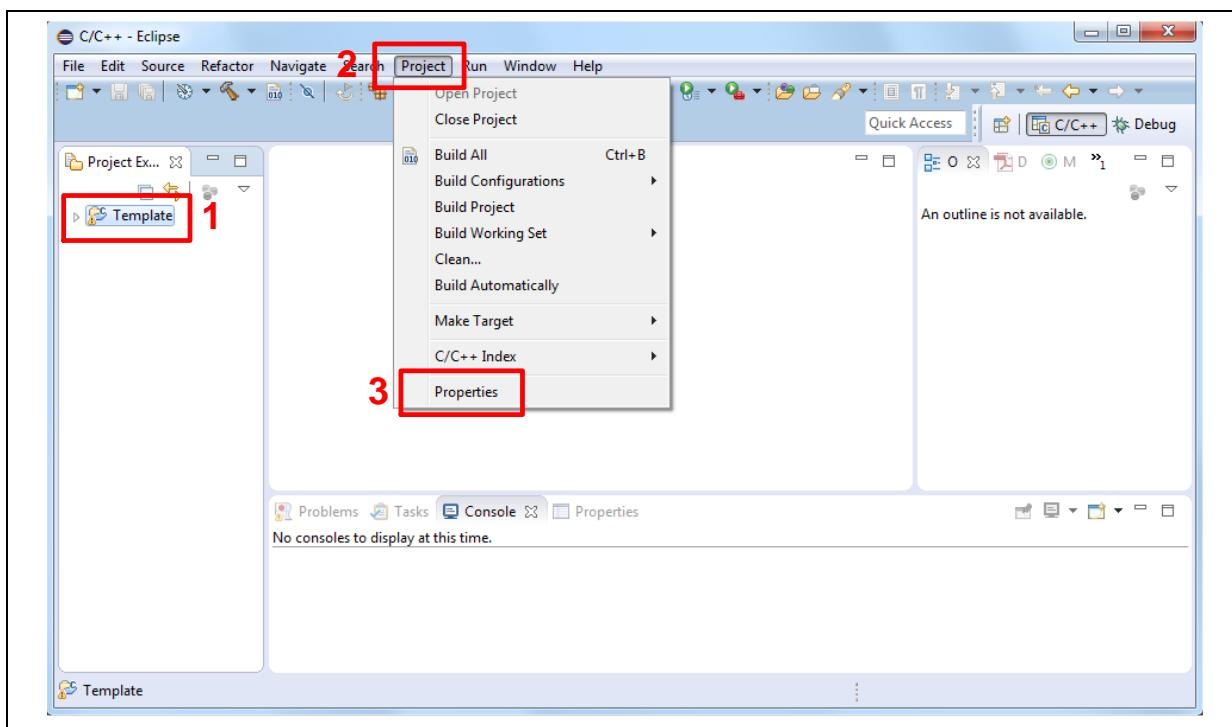
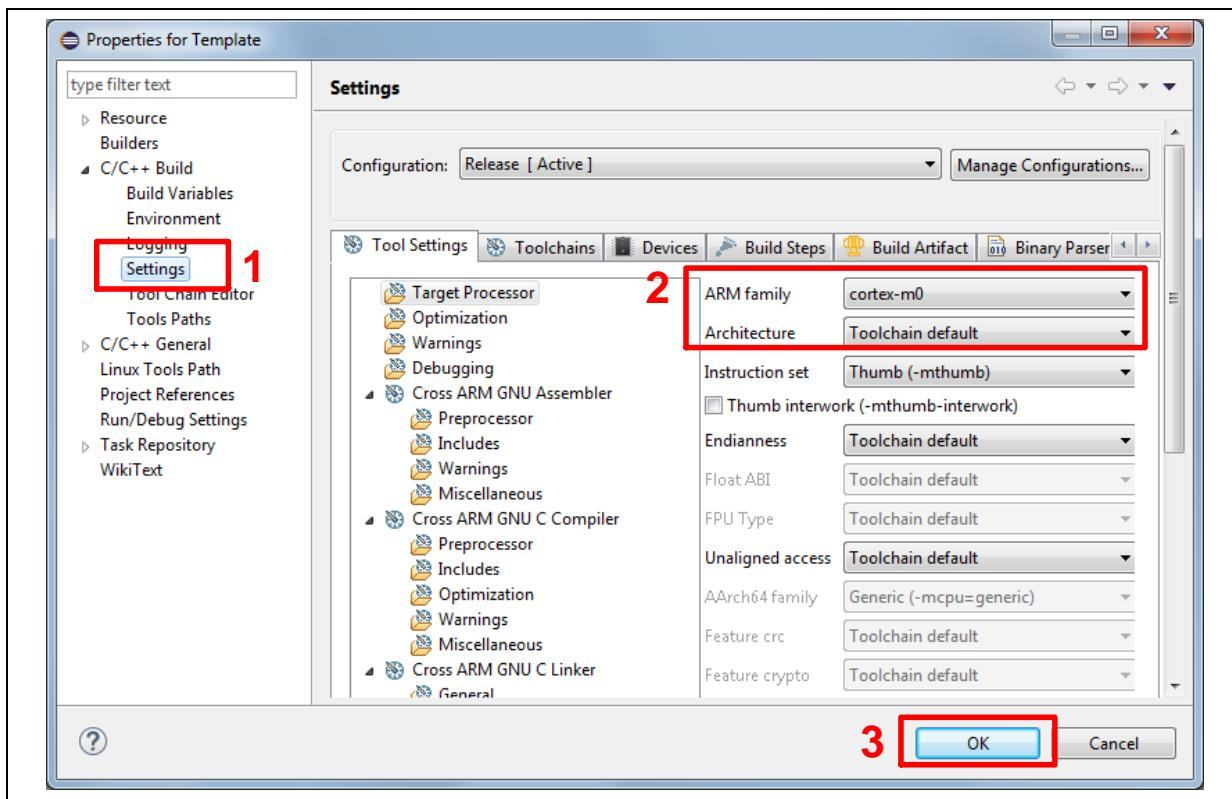

Figure 3-29 Open Project Properties Window
Figure 3-30 Project Properties Settings
3. Click the "Template" project and find the project properties as shown in Figure 3-29. Make sure the settings are the same as settings in Figure 3-30.